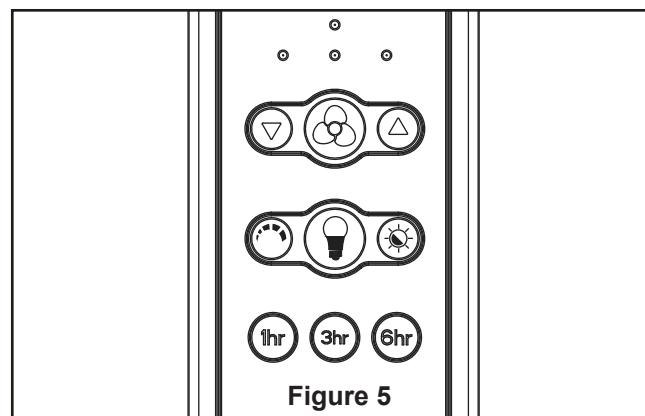

Figure 5
NOTE: Supply wires and fan wires omitted for clarity **Figure 5**
- ☐ 5. Remove one of the three screws in the light kit. Retain the screw for later and slightly loosen the remaining two screws. (Figure 5)
5. Remote functions: (Figure 5)